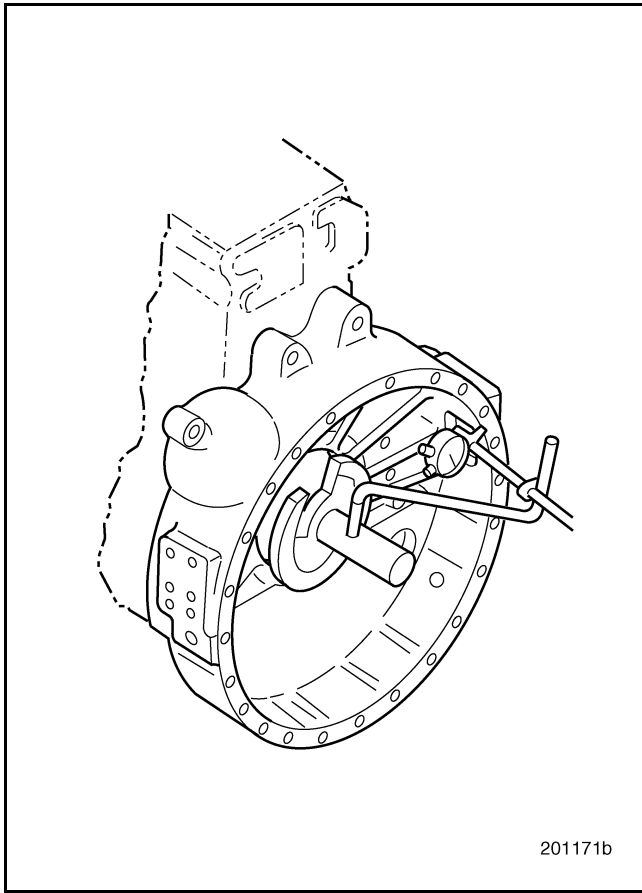

Figure 341 — Flywheel Housing Runout Check with Dial Indicator
- Runout checked with a dial indicator (PT5035 with Z adapter PT5035-1) mounted on the crankshaft rear flange or flywheel as shown in Figure 341 is 0.020 inch (0.508 mm) TIR maximum. Using this method, the runout specification is higher due to crankshaft movement within bearings and other variables.